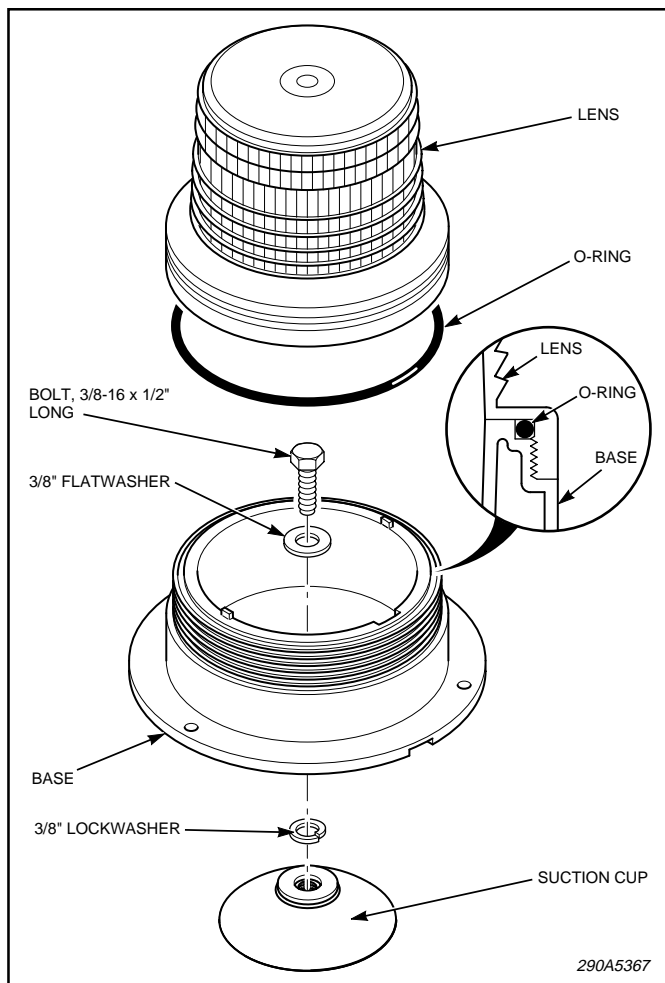

Figure 2.
- D. Secure the suction cup to the base using the 3/8" bolt, lockwasher, flat washer, and nut as shown in figure 2.